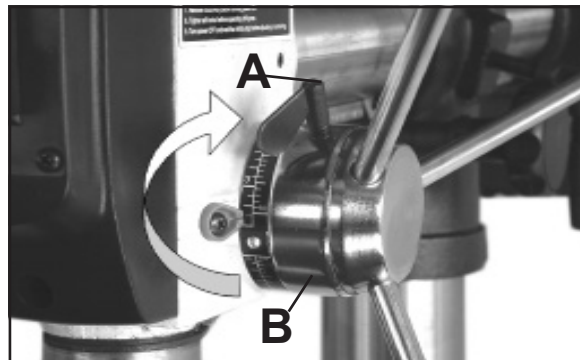

Figure 28
1. Loosen the depth stop collar lock (A-Fig.28).
3. Turn the depth stop collar clockwise until the collar stops (B-Fig.28).
1. With the spindle in the up position, loosen the depth stop collar lock (A-Fig.28).
2. Turn the depth stop collar clockwise until the pointer reads the desired drill depth on the scale (B-Fig.28).